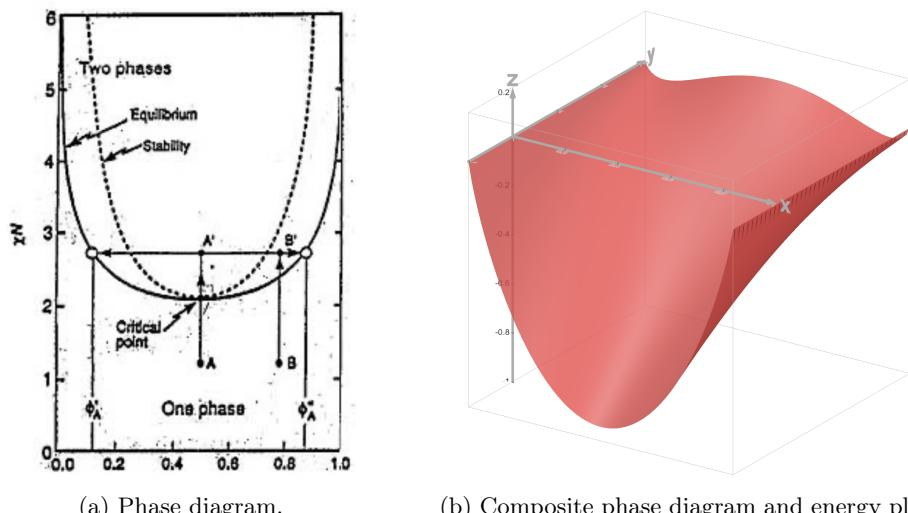

Figure 2.8: Example phase diagram and explanation.
- We are essentially thinking of ϕ_2 and χN as two independent variables that together define a system. A dependent variable of interest in this system is the mixing energy ΔG_M . Therefore, a representation of the set of systems as a 2D graph in 3D space is warranted. Figure 2.7c plots one set of 2D cross sections of this surface (with color as a pseudo-third dimension), and Figure 2.8 plots other important contours of this surface.